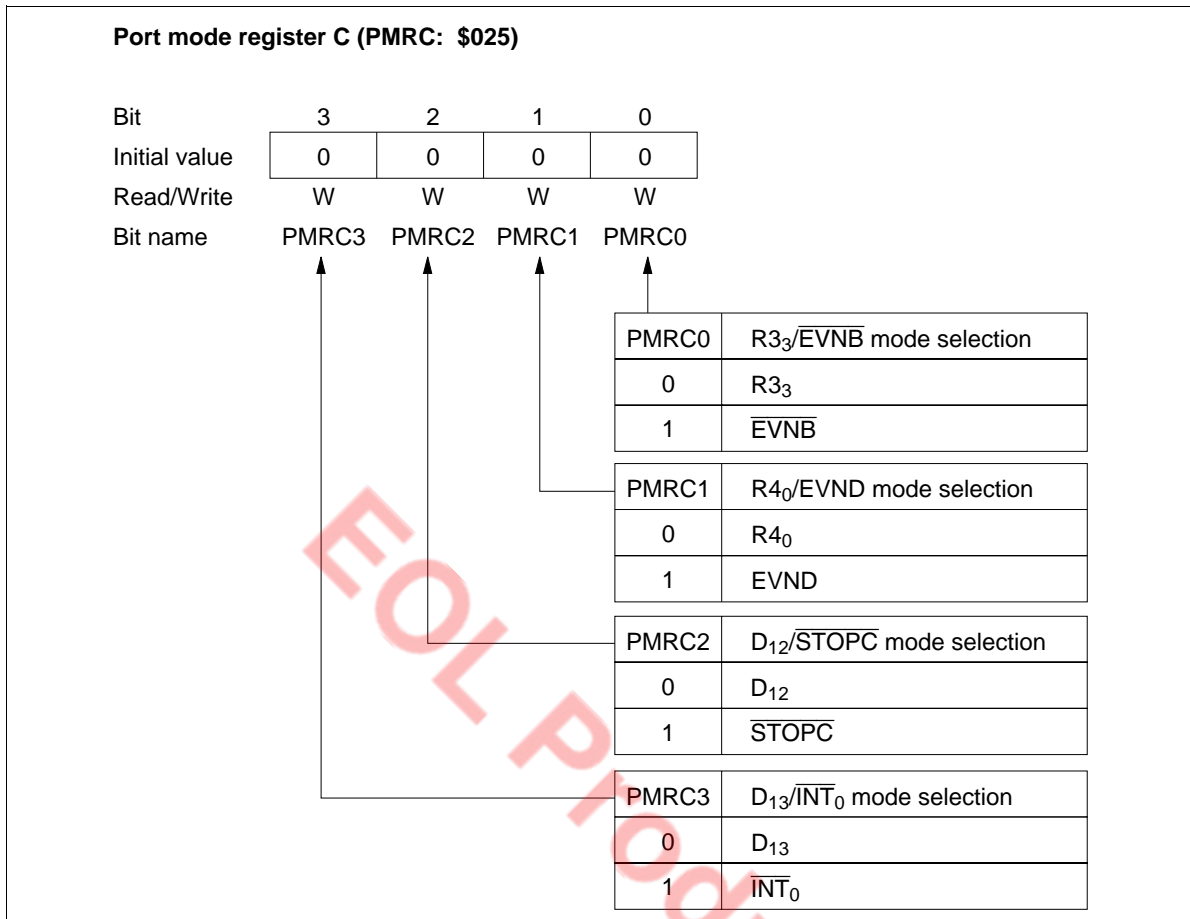

Figure 50 Port Mode Register C (PMRC)
- Port mode register C (PMRC: \$025): Write-only register that selects $R3_{\overline{EVNB}}$ pin function as shown in figure 50. It is reset to \$0 by MCU reset.